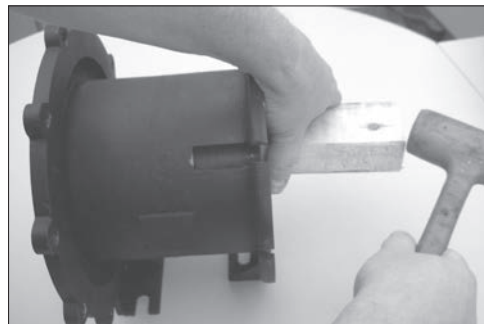

Figure 21
12. Remove the barrier (item 11) from the motor adapter (item 12) (make sure the impeller shaft has been removed). If necessary, gently tap on the backside of the barrier with a soft rod (wood, plastic, etc). Inspect the inside and outside of the barrier for signs of rubbing. See figure 21.